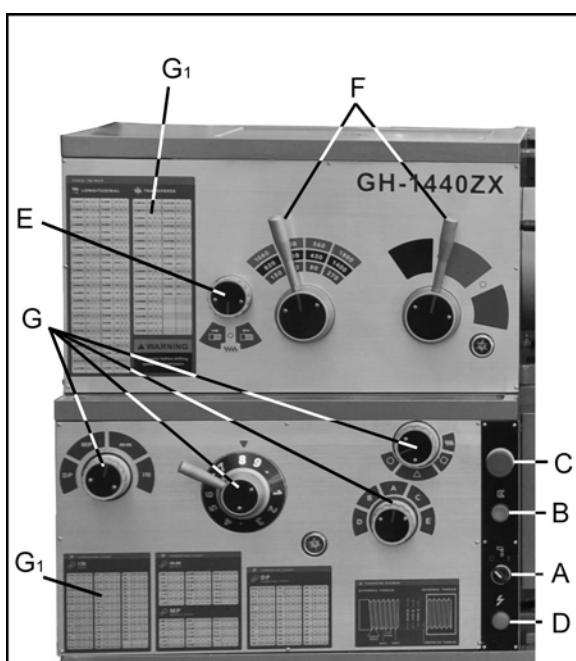

Figure 15 – Headstock controls
Power is connected properly when rotation of the forward-reverse knob (see E, Figure 15) to the left position causes the spindle to rotate counterclockwise as viewed from the tailstock. If the chuck rotates in the clockwise direction, disconnect the lathe from the power source, switch any two of the three power leads (not the green ground wire), and re-connect the lathe to the power source.
- **Coolant On-Off Switch (A, Figure 15)** turns coolant pump on and off.
- **Power Indicator Light (D, Figure 15)** is lit whenever lathe is receiving power.
- **Emergency Stop Switch (C, Figure 15)** stops all machine functions (**Caution:** Lathe will still have power). Twist clockwise to re-set.
- **Jog Switch (B, Figure 15)**. Quickly press and release to rotate the spindle.
2. **Headstock Gear Change Levers (F, Figure 15):** Move levers left or right to desired spindle speed, according to accompanying chart.
3. **Leadscrew/Feed Rod Directional Dial (E, Figure 15):** Changing knob changes direction of feed.
4. **Feed/Lead Selector Levers (G, Figure 15):** Used conjunctively to set up for threading or feeding, according to the accompanying chart (G1, Figure 15).